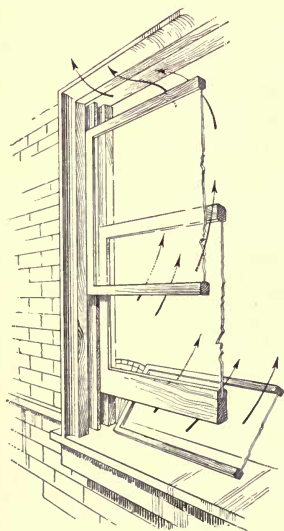

FIG. 39. — Ventilation by a device arranged to prevent a direct draft.
**Ventilation.** Exhaled air is generally warmer and therefore lighter than inhaled air, and therefore rises. In order to ventilate our houses properly, we should see that fresh air is admitted to the bottom of the room, and that the impure hot upper air is drawn off. It is therefore better, when we wish to ventilate a room, to open both the top and the bottom of the window (Fig. 39). A capacity of one thousand cubic feet of air per person in an ordinary room, with the usual ventilation through doors, chimneys, and cracks around the windows, will ordinarily keep the air in good condition.